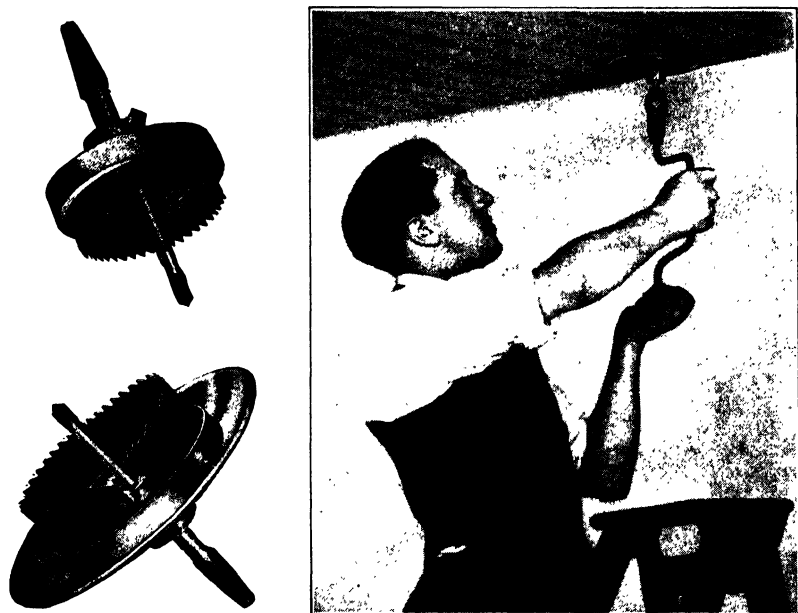

Fig. 36. (Left) Rotary and Ceiling Hack Saw; (Right) Method of Cutting a Circular Opening
**Ceiling Outlets.** Fig. 36 shows a handy tool to use for cutting holes for round outlet boxes, and the method of using it. If you do not feel like buying one, get a round outlet box, file notches in the edge of the box and secure it to an appropriate centering stem for mounting in a bit-brace. Cut out the plaster only, the lath being left intact; it will probably be necessary to notch the lath to permit